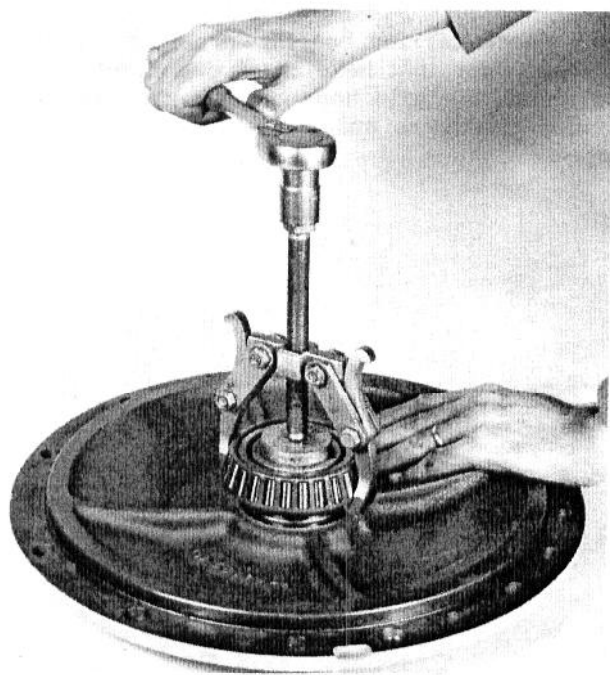

Fig. 12 - Carrier Bearing Cone Removal
4. Remove the differential carrier bearing cone as shown in Fig. 12. (Non-diff. lock.)